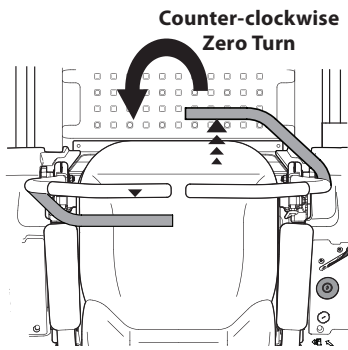

Figure 3-12
3. To turn counter-clockwise, move the right control lever forward while simultaneously moving the left control lever rearward. See Figure 3-12.